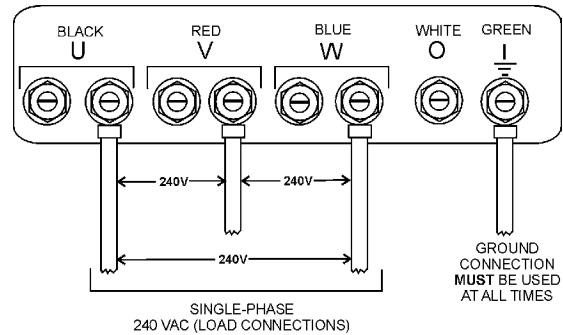

Figure 21. UVWO Terminal Lugs 1Ø-240V Connections
2. Connect the load wires to the UVWO terminals as shown in Figure 21.